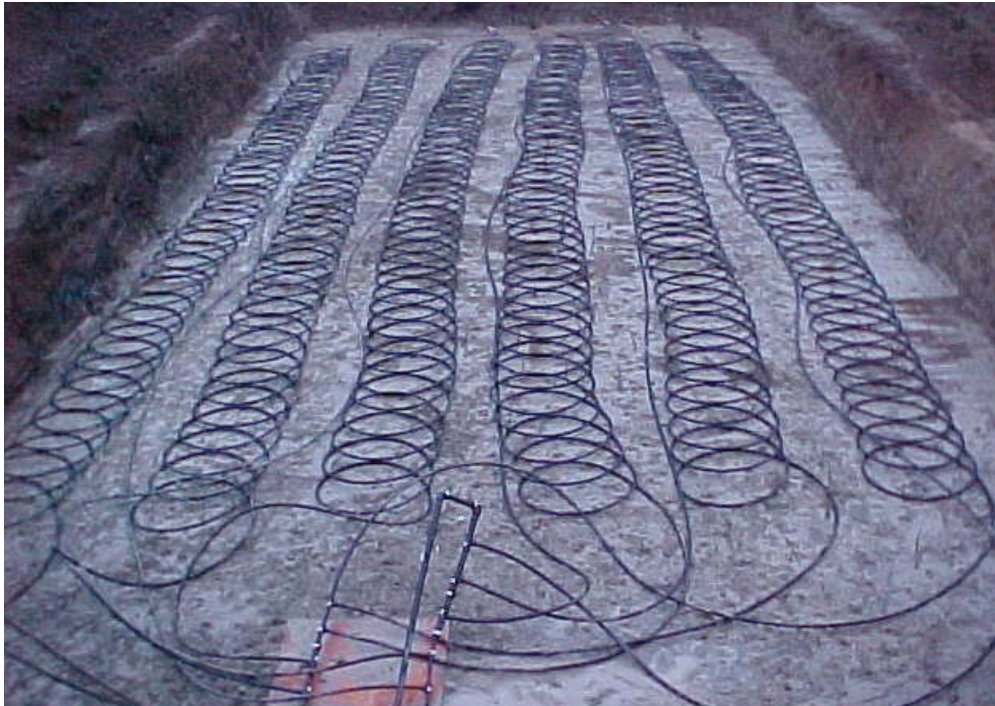

Figure 5 “Slinkies” laid into large-area excavation
- Figure 5 Energy efficiency ratios (EERs) of a typical water-to-water heat pump © Caleffi Hydronic Solutions. Used with permission.
Figure 5 below shows pipe fashioned into coils, known as “slinkies” and laid within wide excavated areas. These layouts work well in soils that can be excavated and back-filled using a front-end loader.
Note that in Figures 5 and 6, there is a straight run of pipe beside each coil. This is the return line from the end of the coil. There will be a supply and a return manifold for each field.